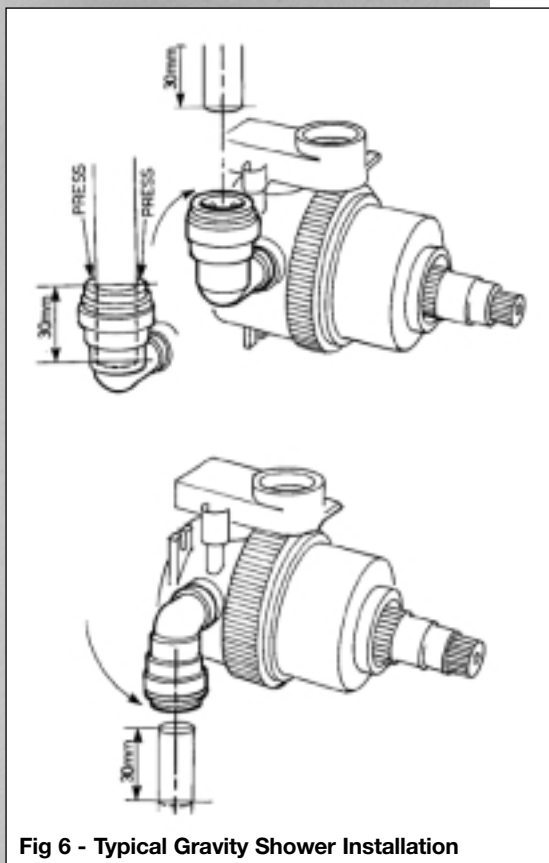

Fig 6 - Typical Gravity Shower Installation
DO NOT POINT THE INLET ELBOW FITTINGS DIRECTLY BACK INTO THE WALL (SEE FIG 6).
9. Push the shower unit onto the supply pipes ensuring that 30mm enters the push fit fitting for both hot and cold. Should the shower unit need to be removed from the supply pipes then the grey locking collets should be pressed firmly against the elbows and the pipework can be removed, (Fig 6).